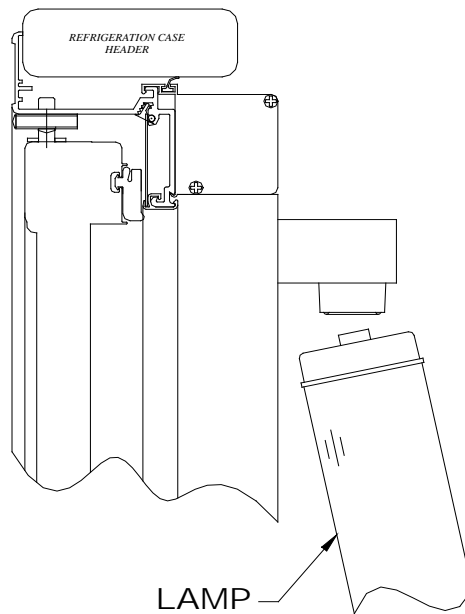

FIGURE 4.
- 11.) To install lamps with guard already in place as shipped, align lamp terminal end with Top socket that is attached to the frame. (Figure 4) Insert lamp into spring loaded socket, push up and insert lamp into bottom stationary socket.